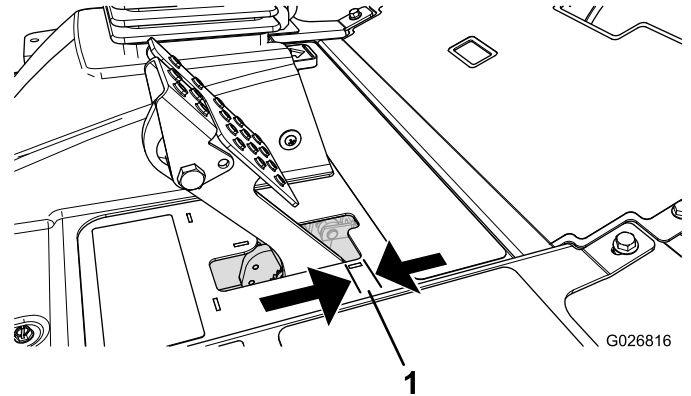

Figure 65
Adjust the brakes when there is more than 2.5 cm (1 inch) of free travel (Figure 65) of the brake pedal, or when more holding force is required. Free travel is the distance the brake pedal moves before you feel braking resistance.
2. Tighten the rear nut to move the cable backward until brake pedals have 0.63 to 1.27 cm (1/4 to 1/2 inch) of free travel (Figure 65), before the wheels lock up.